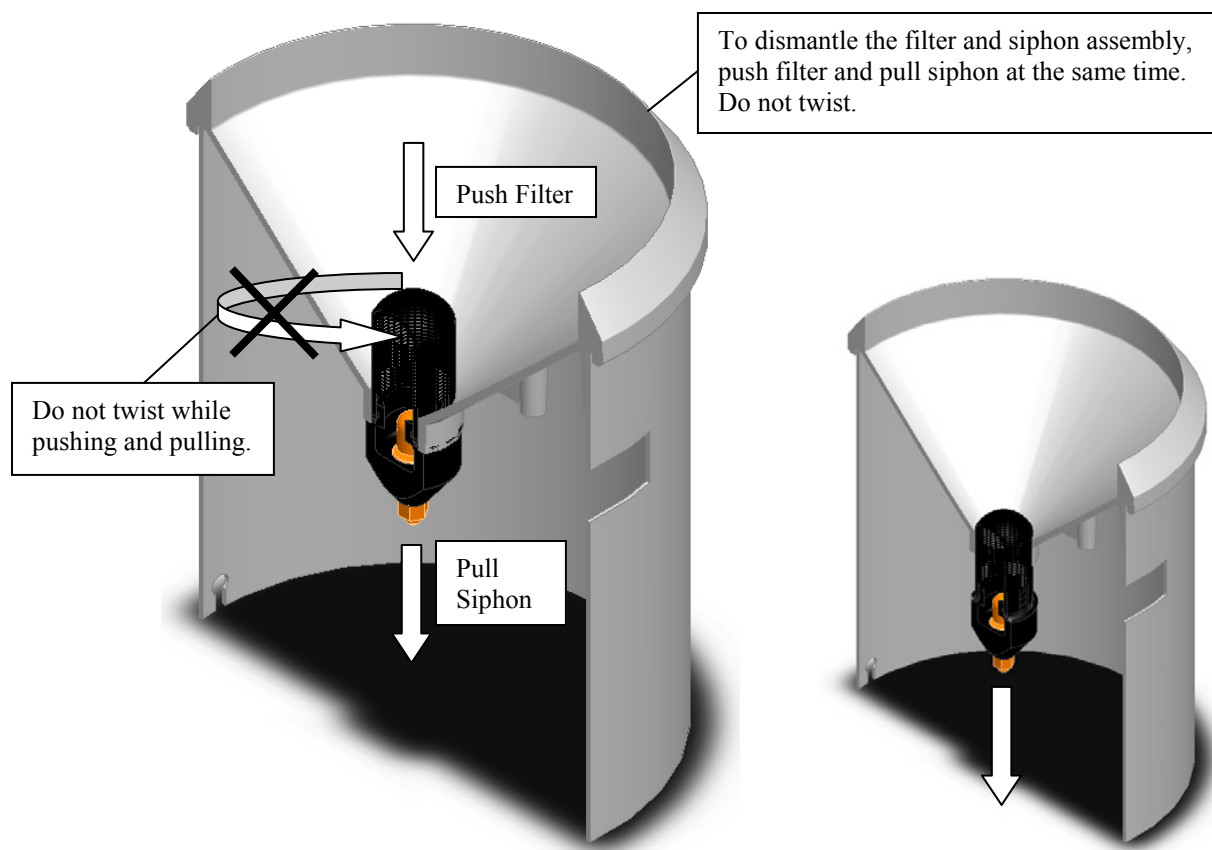

FIGURE 7-2. Dismantling the Filter/Siphon Assembly
2. Separate the filter/siphon assembly from the funnel by pushing the filter while pulling the siphon (see Figure 7-2).